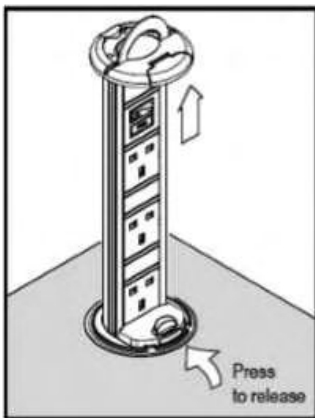

Fig. 3b
- To lower the product, press the release button (see Fig. 3b)